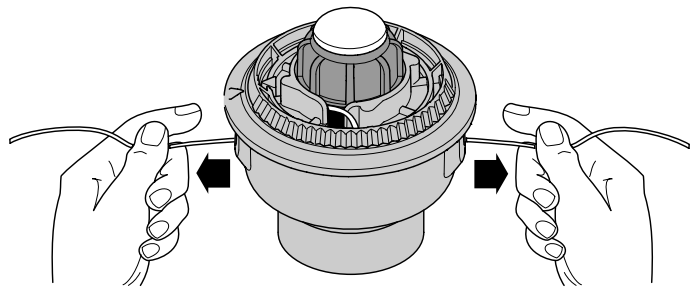

Fig. 20
9. If winding the line becomes difficult or if the line jams, pull the ends of the line from the spool (Fig. 20). Continue winding the inner reel counterclockwise.
4. Hold the inner reel in place and install the bump knob, spring and foam seal. Press down and turn the bump knob clockwise. Grasp the ends and pull firmly to release the line from the holding slots in the inner reel (Fig. 20).
If the SpeedSpool® does not release line correctly, pull the ends of the line firmly from the spool (Fig. 20). If this does not release the line, follow the *Cleaning the SpeedSpool®* instructions.